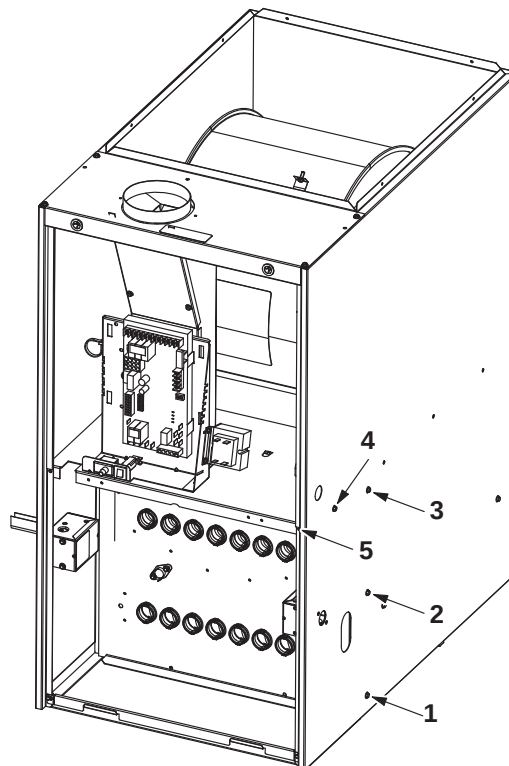

Figure 22. Remove five screws if necessary (either side of cabinet)
- 9 - Remove heat exchanger. It may be necessary to spread cabinet side to allow more room. If so, remove five screws from the left side or right side of cabinet. See **Figure 22..**